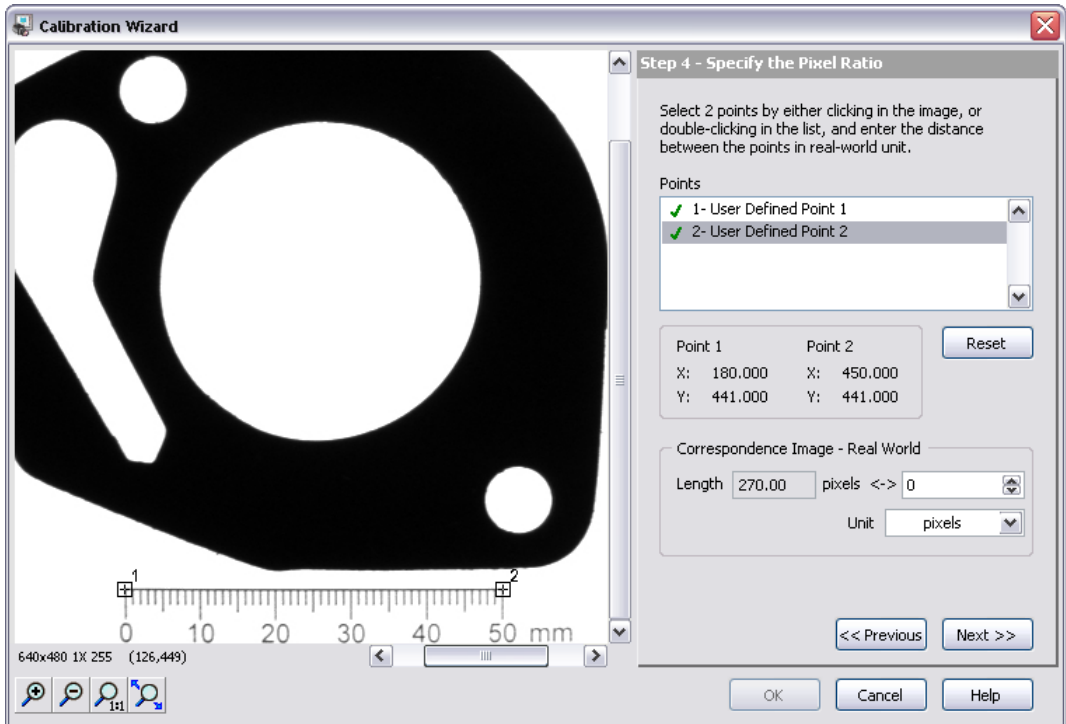

Figure 3-1. Specifying the Pixel Ratio
16. In the **Specify the Pixel Ratio** step, carefully click the 0 mm and 50 mm markings on the ruler at the bottom of the image, as shown in Figure 3-1.